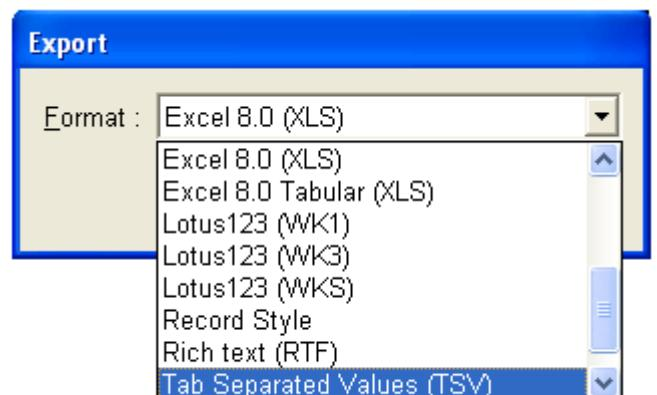

Figure 337
3. From the 'Export' list (Figure 337) select the format you wish to export to.